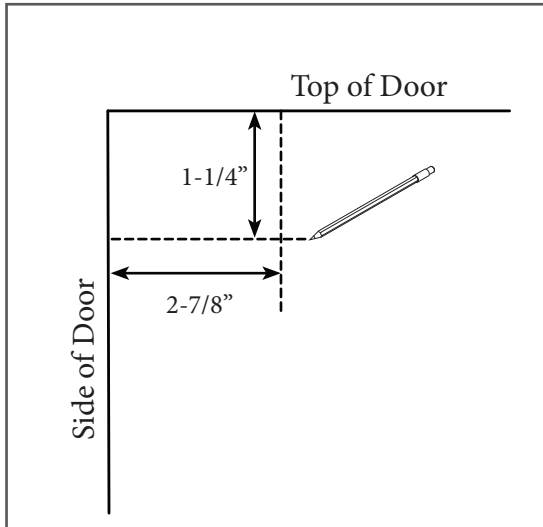

Figure 1
1. Lay the door face up on a smooth, level surface. Measure and mark  $2\text{-}7/8\text{'}$  from the side edge of the door. Measure and mark  $1\text{-}1/4\text{'}$  from the top edge of the door ensuring lines from both measurements intersect (Figure 1).